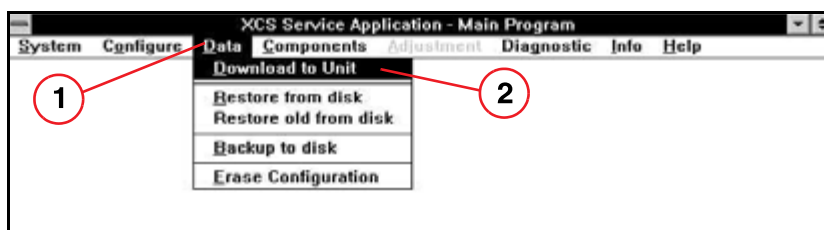

Fig. 26:
- Select **Data > Download to Unit** in the XCS SSW (Fig. 26 / p. 47).